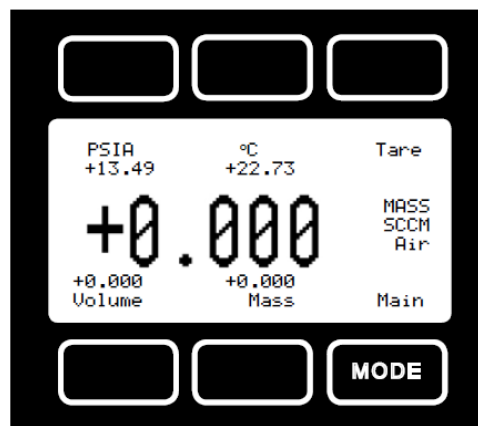

Figure 1 Alicat Mode Screen
- **Tare** - Perform an initial flow tare of the zero air Alicat. Pushing the labeled "**Tare**" button for about 5 seconds in the upper right hand corner (Figure 1) tares the flow meter and provides it with a reference point for zero flow. **Note:** It is critical to have a stable tare before starting the air certification procedure. This is a simple but important step in obtaining accurate measurements.